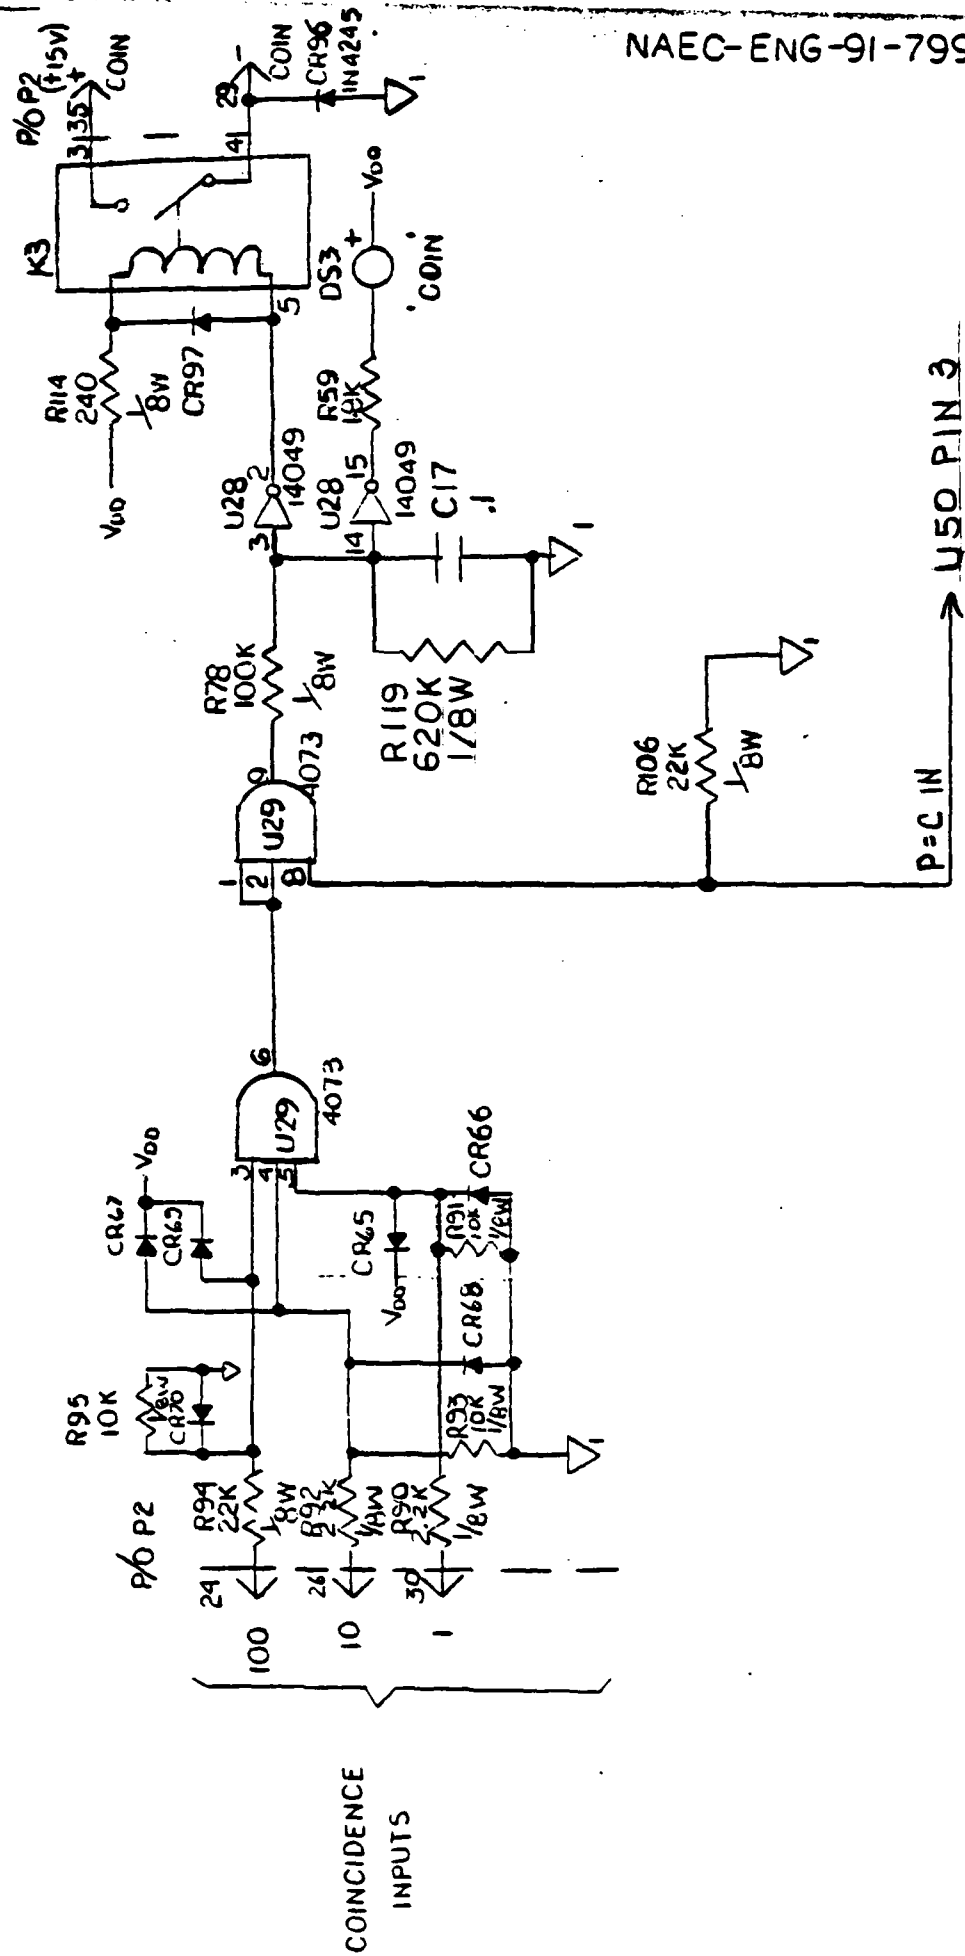

FIGURE 32 COINCIDENCE CIRCUITS
c. The coincidence circuit schematic is shown in Figure 32.